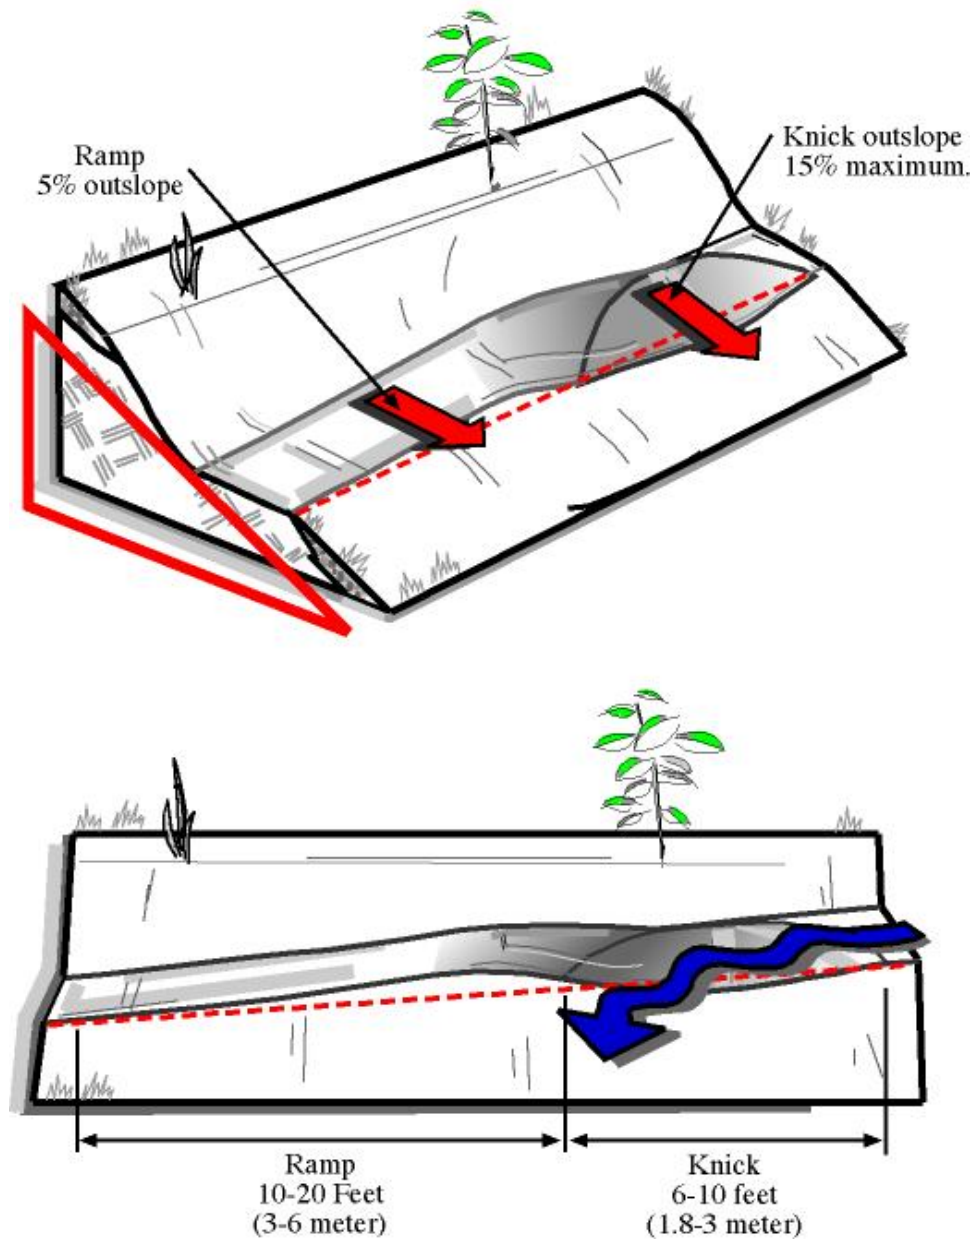

Figure 7: Rolling Grade Dip
3.5 Rolling Grade Dip (figure 7)